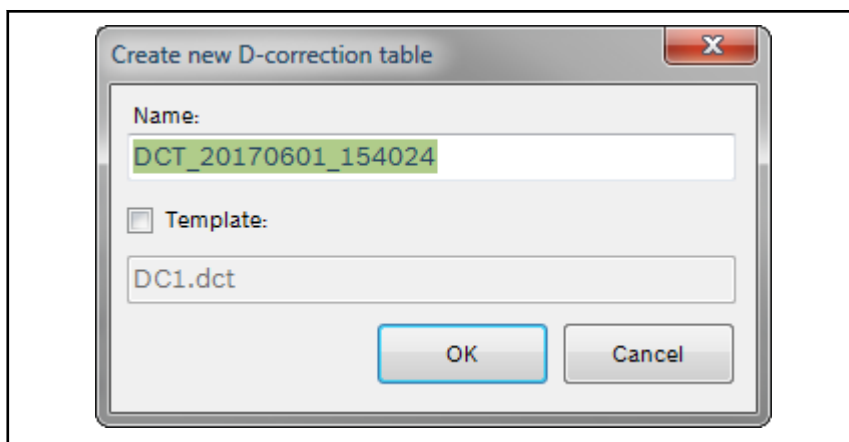

Fig. 7-35: Dialog to create new D-correction table
Calling from the MTX Navigator	1. Directory in which the new D-correction table is to be generated. Select the directory in the MTX-Navigator using touch gestures or the <Cursor>keys. 2. Press <F2 New> and then <F6 D-corrections> in the sublevel of the F-keypad. - or - Select the menu item New ► D-Corrections in the context menu. A dialog (see fig. 7-35 " Dialog to create new D-correction table" on page 202) opens to create a new D-correction table (continue with point 3).
Opening from the D-correction editor	1. Press <F8> to switch to the second F-keypad level and click on <F2 File...> to switch to the file functions. 2. Press the <F2 New...> key. A dialog opens to create creating a new D-correction table (see fig. 7-35 " Dialog to create new D-correction table" on page 202).
1. Open the **New** dialog (see fig. 7-35 "Dialog to create new D-correction table" on page 202) as described above.
A dialog (see fig. 7-35 "Dialog to create new D-correction table" on page 202) opens to create a new D-correction table (continue with point 3).